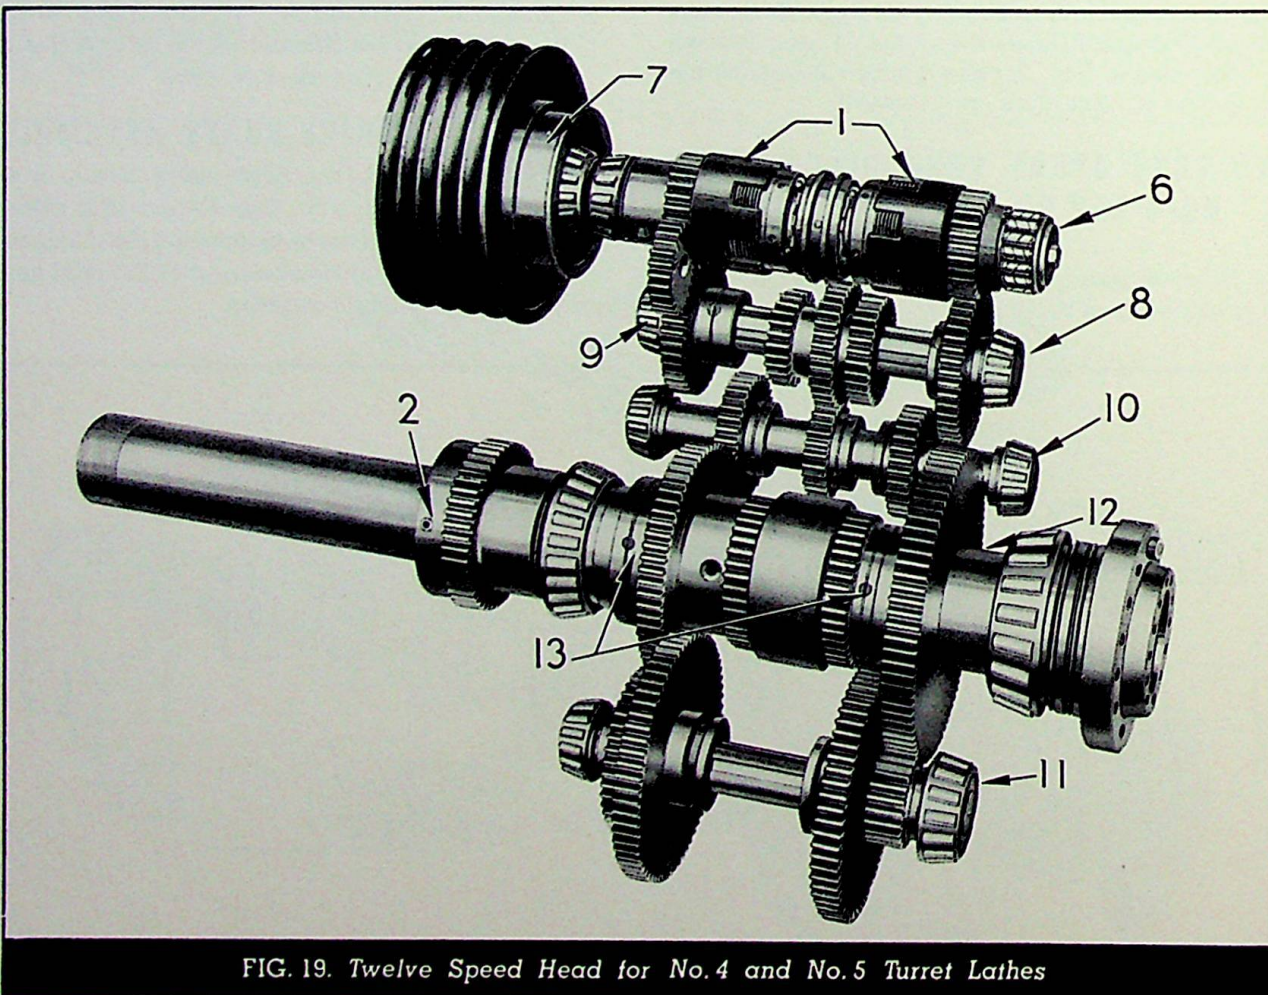

FIG. 19. Twelve Speed Head for No. 4 and No. 5 Turret Lathes
4. It is now necessary to move the gear shaft sideways. This requires sliding it through the inner bearing race (for instance 10 or 11, Fig. 19) and through the gears on the shaft.